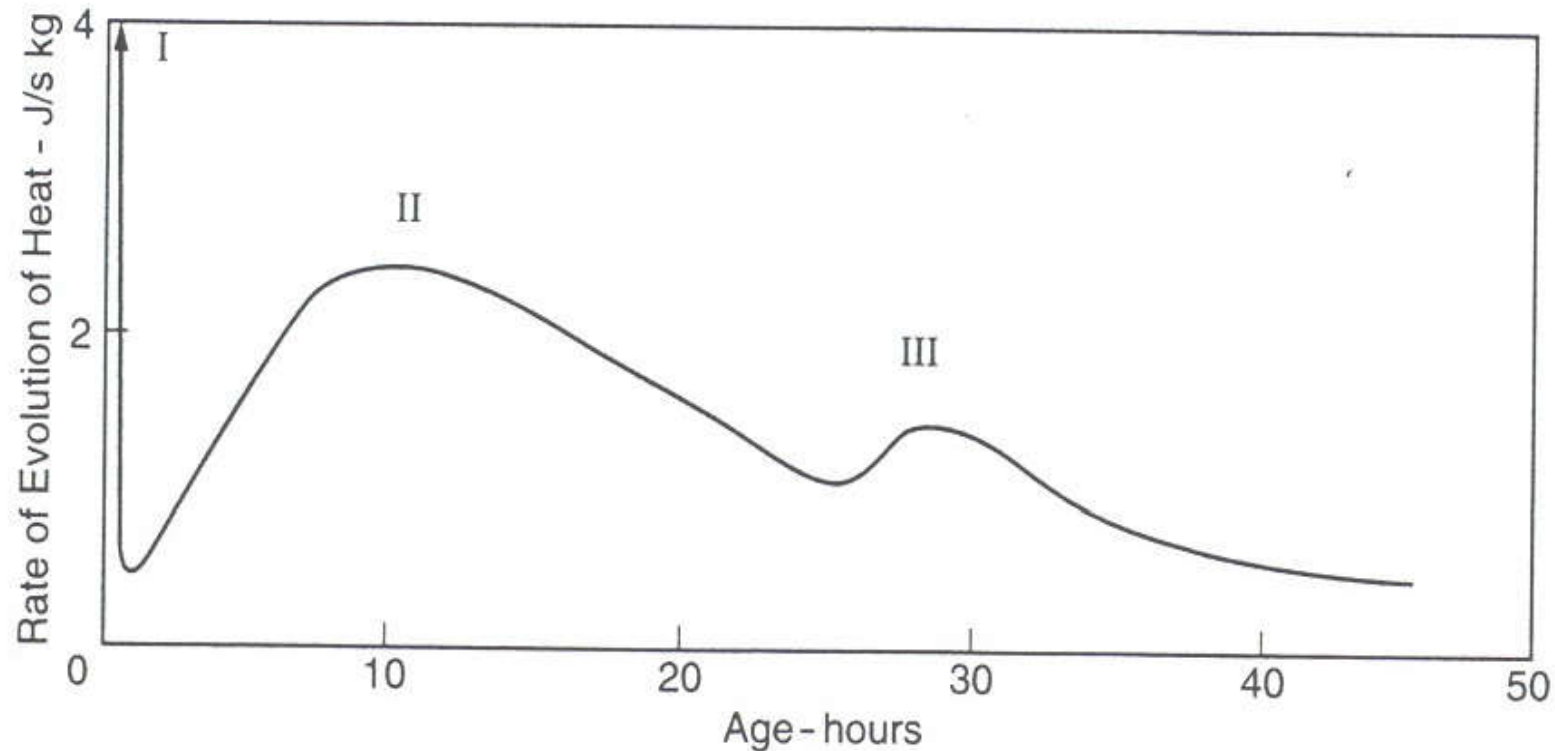

Figure 2.16 Rate of Evolution of Heat Portland Cement with a Water/Cement Ratio of 0.4
- ◆ Figure 2.16 shows a plot of the rate of evolution of heat against time.